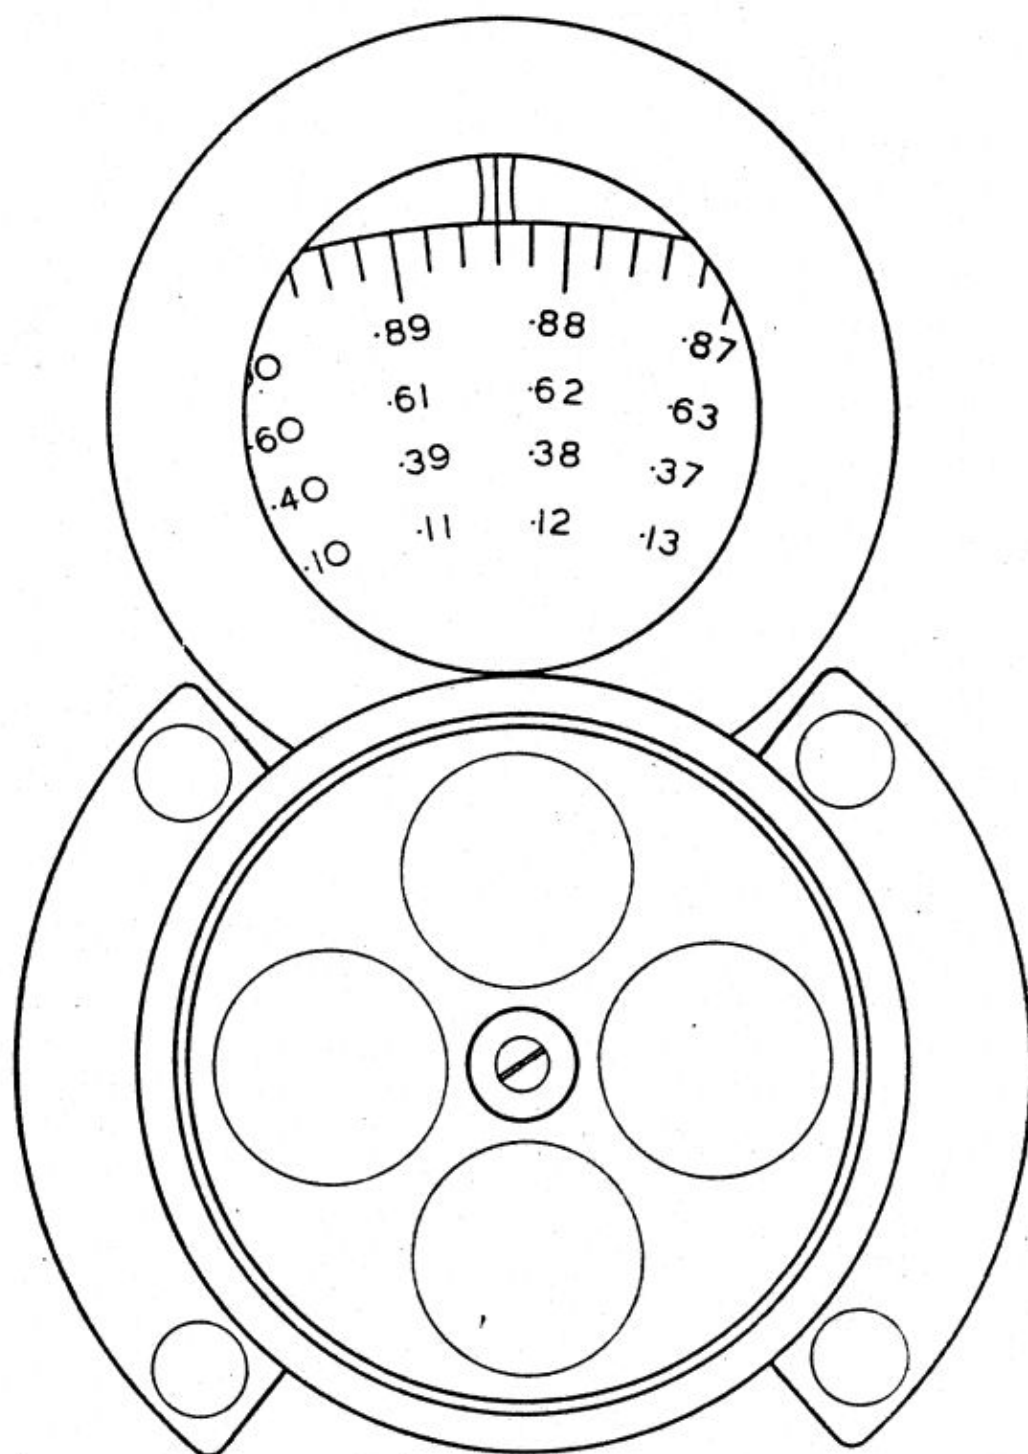

Fig. 2—Dial of calibrator
When the selector switch is in the DIAL position, both oscillators are in circuit. The frequency of the variable oscillator may be adjusted by a front panel control which also rotates a calibrated dial—see Fig. 2. The engraved figures on this dial indicate the first and second decimal
- (4) Note the calibration error of the Wireless Set No. 62 FREQUENCY dial.
- (5) Now place the calibrator selector switch to the DIAL position, and rotate the calibrator dial until one of the four scales (see Fig. 2) indicates the first, second and third decimal places of the ordered frequency in megacycles (e.g. for an ordered frequency of 8.384 Mc/s, set the dial to .384, the last figure being obtained by interpolation. It will be noted that the dial will have the same position for 6.384 Mc/s or 7.384 Mc/s etc.).
- (6) On the Wireless Set No. 62, turn the FREQUENCY dial slowly in the direction of the ordered frequency, the approximate position of which should be known from the calibration error observed in (4) above. Close to this position a calibrator whistle should be audible: this may be recognized by its one cycle per second pulsing. In order to hear this whistle clearly, it may be necessary to turn the Wireless Set No. 62 GAIN control up and re-tune the AE TUNING. This, however, should only be necessary at the upper end of the 4–10 Mc/s band.
- (7) On the Wireless Set No. 62, adjust the FREQUENCY dial for zero beat. The Wireless Set No. 62 is now set up to ordered frequency.